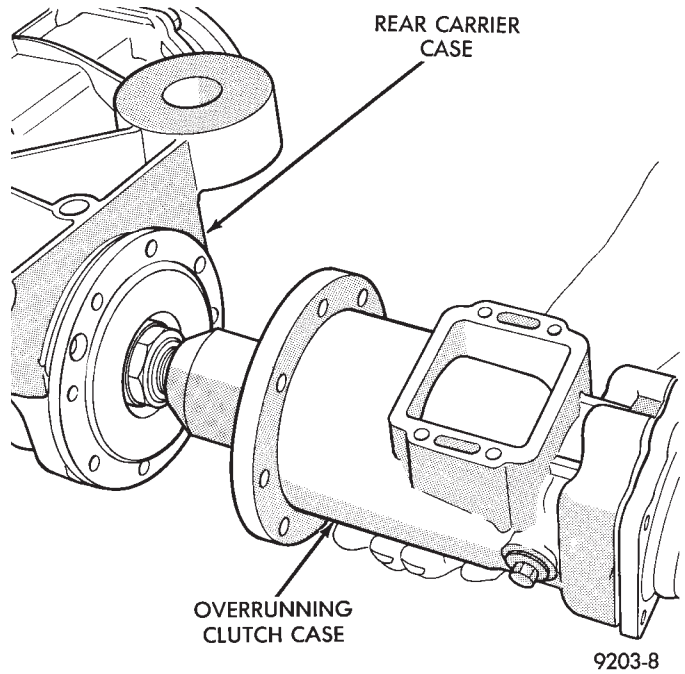

Fig. 9 Separate Housings
(6) Separate overrunning clutch case from rear carrier case (Fig. 9).